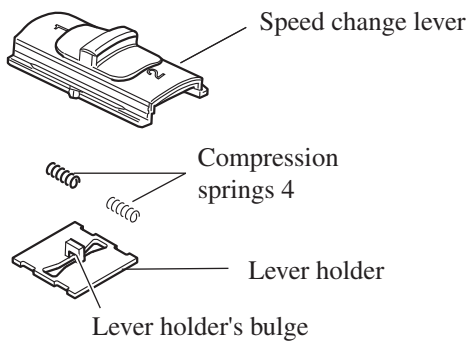

Fig. 5
- (1) Assemble the speed change lever section as follows.
- Put compression springs 4 to the both sides of the lever holder's bulge, and mount compression springs 4 together with lever holder, to speed change lever as illustrated in Fig. 5.